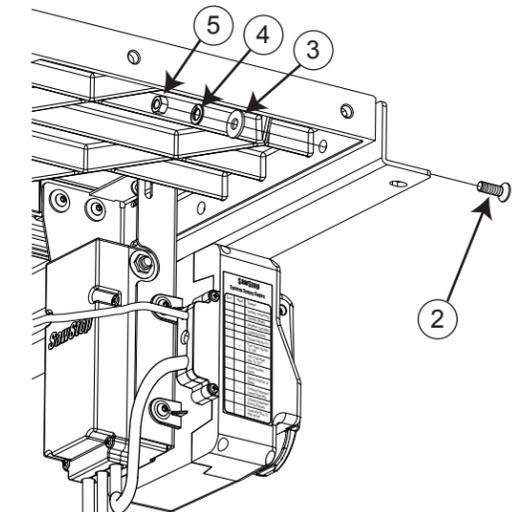

Fig. 4
4. Place an M8x23x2 washer and an M8 lock washer on the back of each of the M8x1.25x25 flat head socket bolts that extend through the extension wings, and then thread an M8x1.25 hex nut on each bolt (see Fig. 4). Hand tighten the nuts; do **not** fully tighten them.